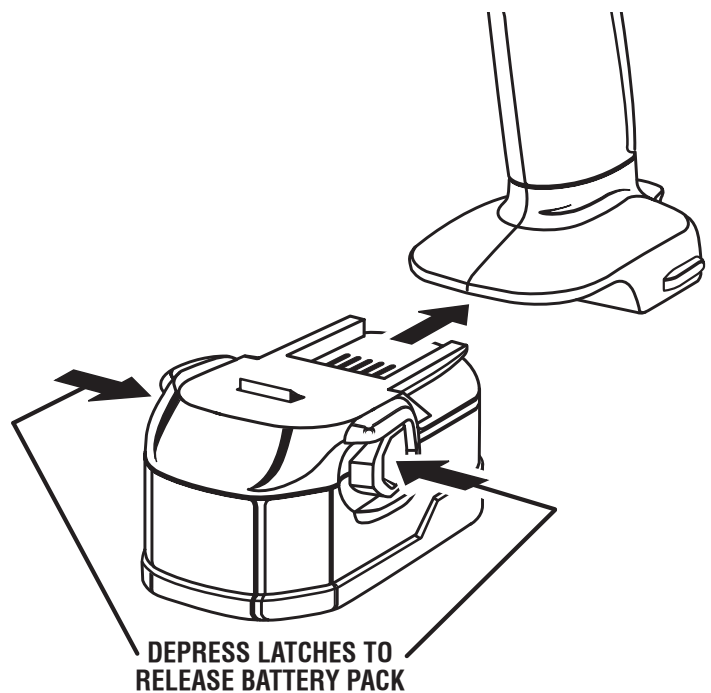

Fig. 5
- Place battery pack in the drill. Align raised rib on battery pack with the groove inside the drill. See Figure 5.
- Locate latches on side of battery pack and depress to release battery pack from the drill. See Figure 5.